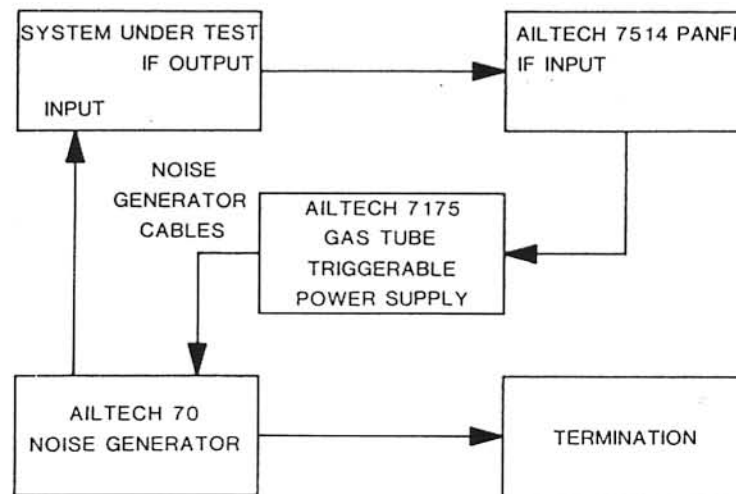

FIGURE 3-3. AUTOMATIC NOISE FIGURE MEASUREMENT USING GAS-DISCHARGE NOISE GENERATOR
- a. Connect the equipment as shown in Figure 3-3.